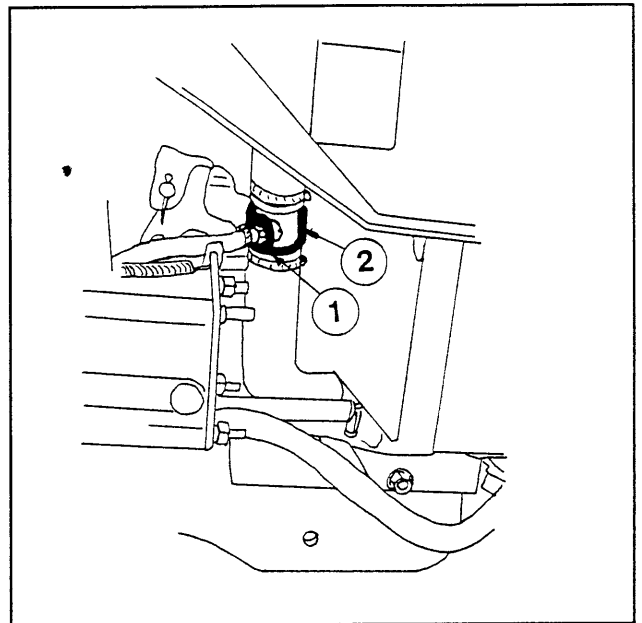

Figure 2
5. Locate the lower radiator hose on the right side of the engine, near the water pump. Cut the hose where shown. Screw the remaining 3/8"NPT-3/8"barb 180 degree fitting (1) into the splicer (2). REMEMBER to use a water sealant material around the threads of the fitting. Connect each end of the splicer to one end of the hose using the HS-20 hose clamps provided. (see Figure 2)